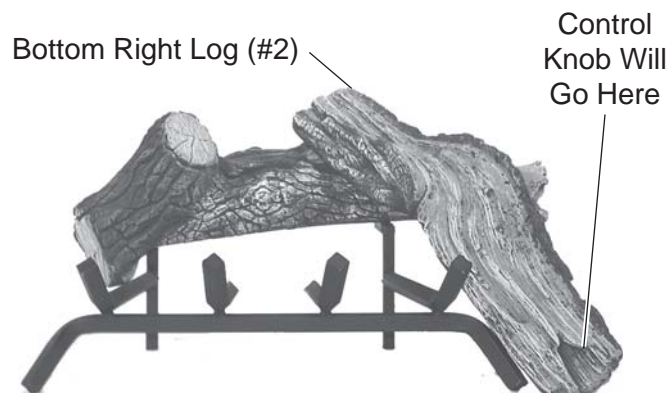

Figure 124 - Placing Bottom Right Log (#2)
3. Place Bottom Right Log #2 along outside of grate. Rest end on Rear Log #1. Control knob will stick through bottom notch of log. *See Figure 124.*